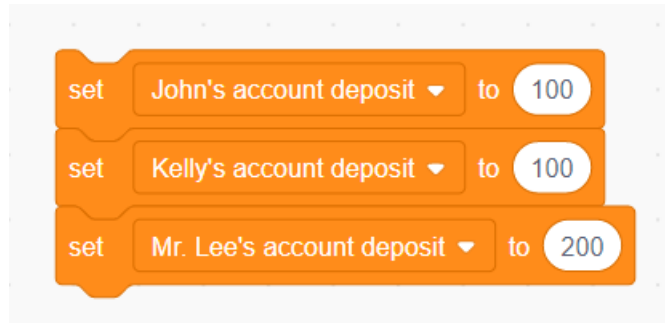

Figure 5.21 Create three variables
Step 3: Create three variables, which represent John's account deposit, Kelly's account deposit, and Mr. Lee's account deposit, assuming that the deposits are 100 yuan, 100 yuan, and 200 yuan, as shown in Figure 5.21.